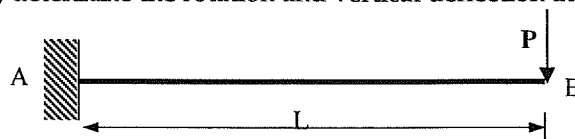

Figure Q4
- (b) A cantilevered beam is loaded with end point load P as shown in Figure Q4. Using Castigliano's second theorem, determine the rotation and vertical deflection at end B of the beam.